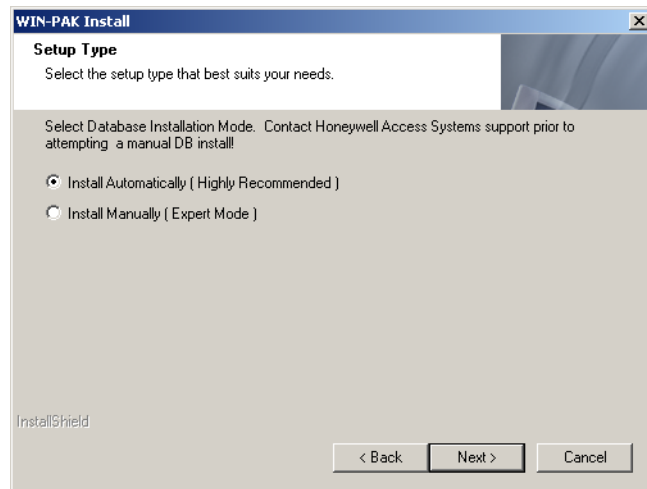

Figure 2-13 Setup Type
- Click **OK**. **Figure 2-13** appears.